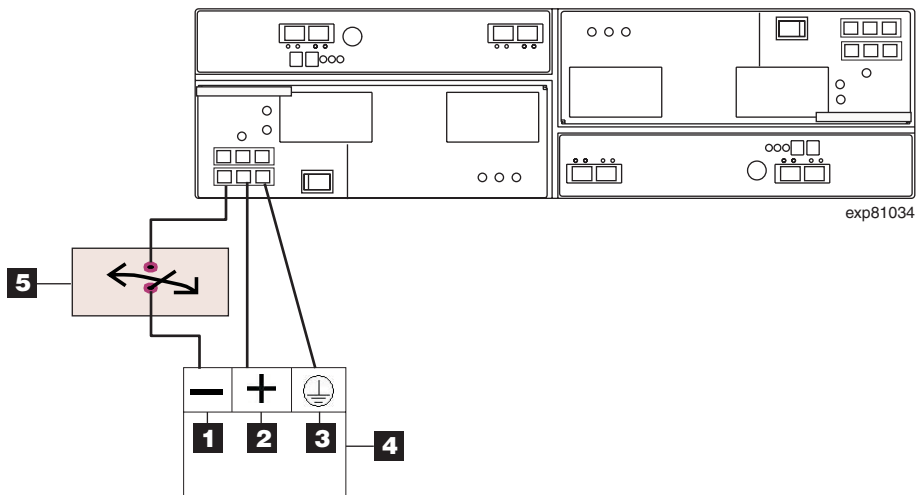

Figure 48. DC wiring from EXP810 to disconnect device and DC power source
- Complete the wiring from the disconnect device to the terminal marked -48V of the Reliably grounded safety extra low voltage (SELV) DC power source. Connect the POS RTN and ground lines of the DC power cable to the terminals marked POS RTN and GND on the DC power source, as shown in Figure 48. For maximum protection against power loss, connect each of the two DC power supplies to a different power source.